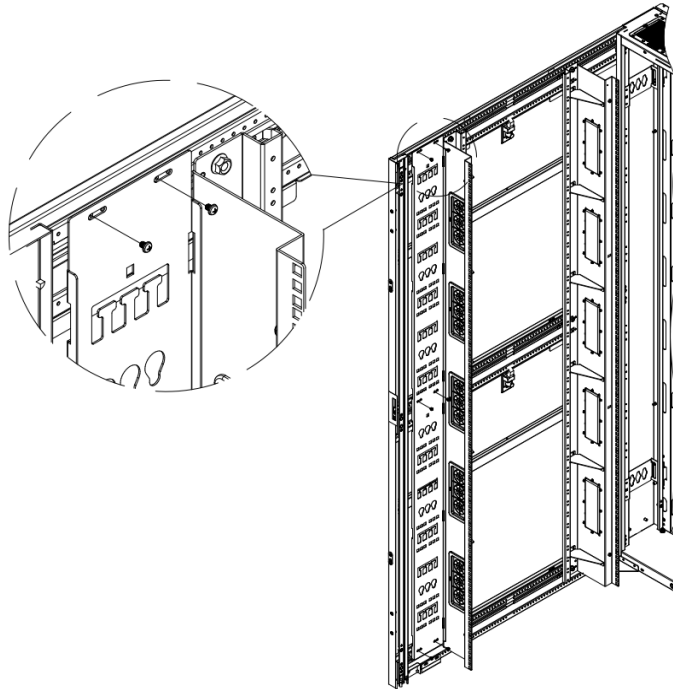

Figure 6.5.5
- (Only for the Pro Version) Fix the lashing panel (④ or ⑤) with phillips pan head self-tapping locking screws M4x8 to a torque of 28.8 lb-in (3.2 N•m). (Figure 6.5.5)